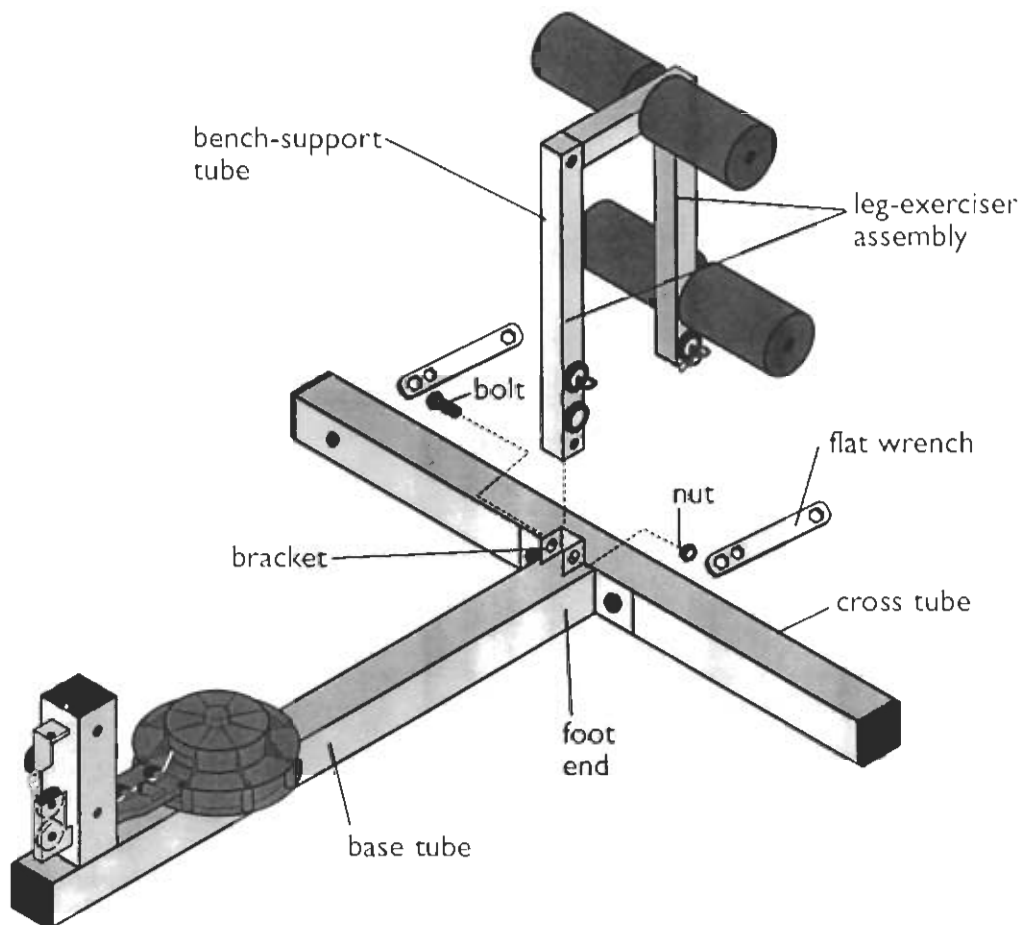

Figure 4
2. Position the leg-exerciser assembly as shown in Figure 4. (The bench-support tube should be on the side nearest the base tube.)